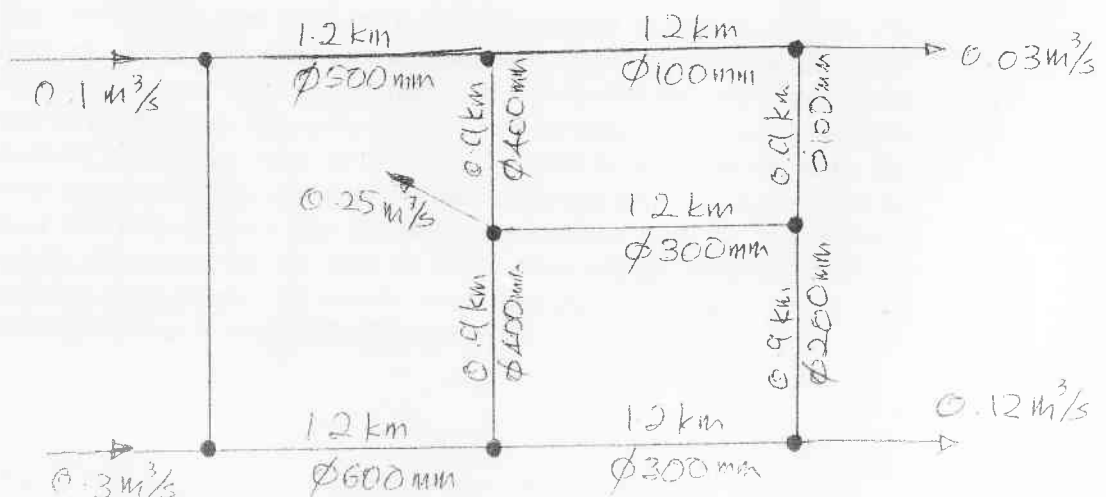

Fig T2.14
14. Determine the flow rate at water in each cast-iron pipe in the pipe network system shown in Fig T2.14.